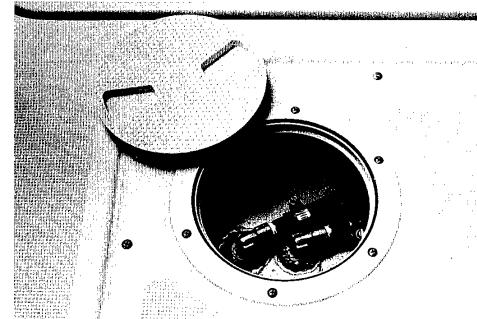

Figure 13
2. Check the fuel compartment for fuel leaks and fumes. Make sure all fuel lines and fittings are tight. See figure 13.